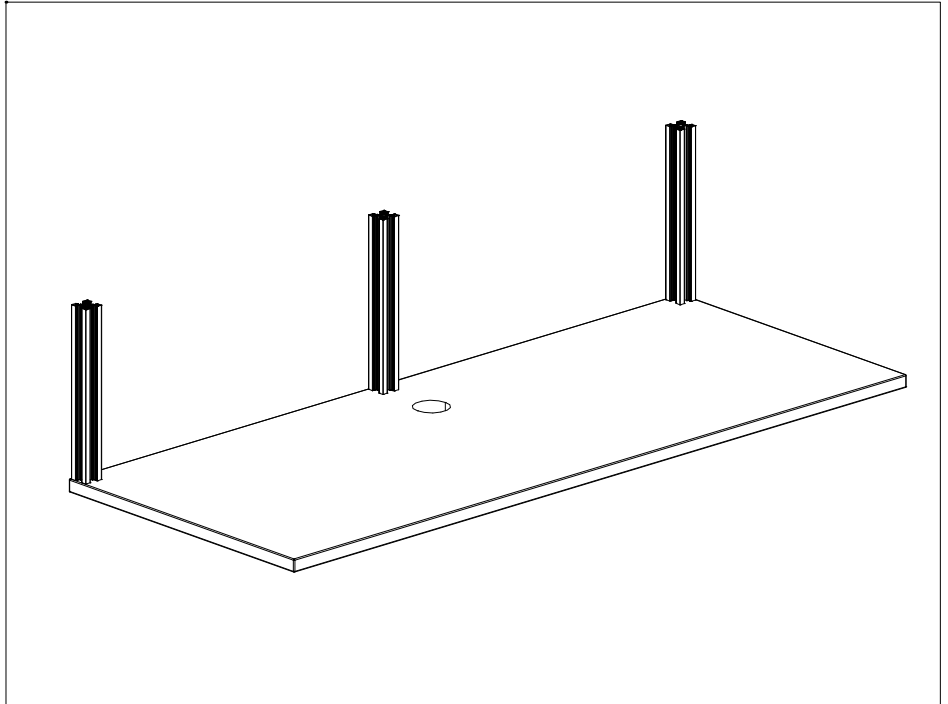

FIGURE 1
1. Make sure the posts are not tightly secured to the worksurface, (Figure 1).